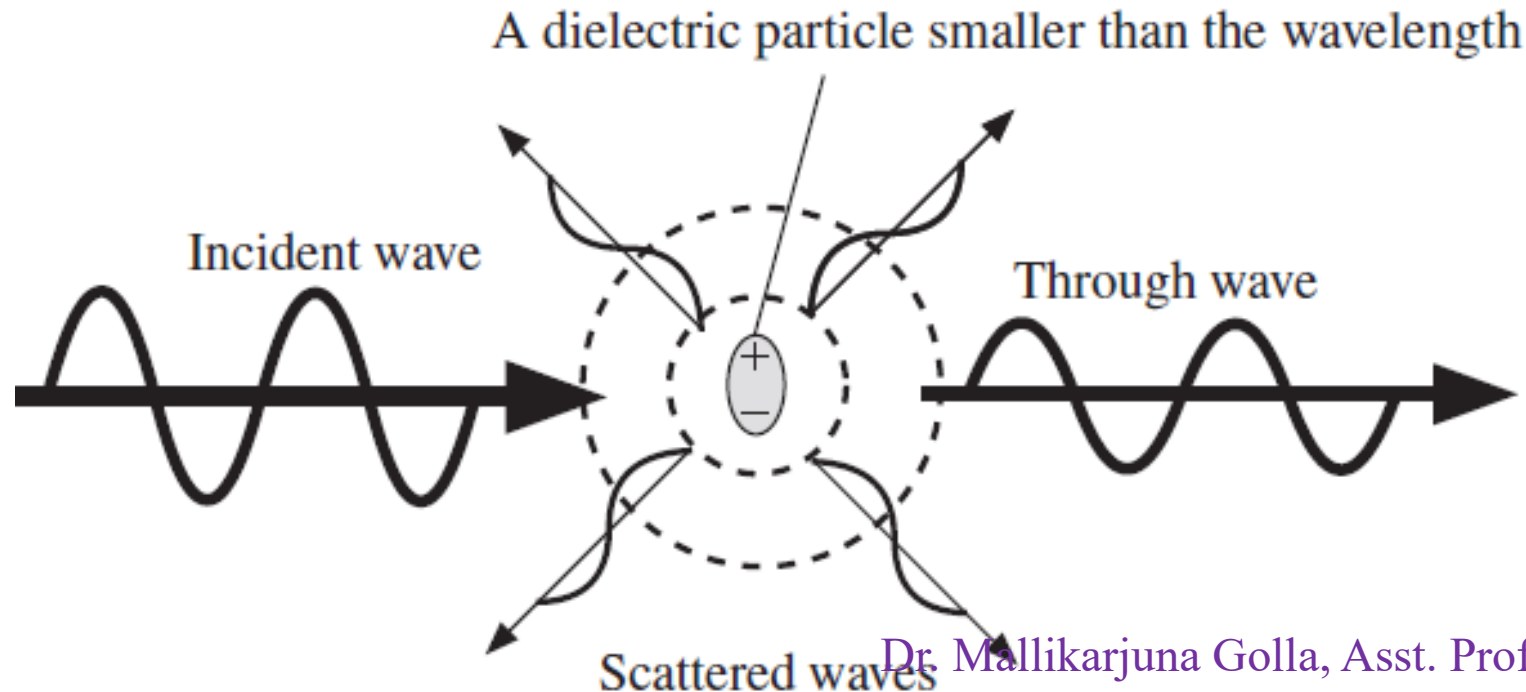

Figure 9.25 Rayleigh scattering involves the polarization of a small dielectric particle or a region that is much smaller than the light wavelength.
Scattering of an EM wave implies that a portion of the energy in a light beam is directed away from the original direction of propagation as illustrated for a small dielectric particle scattering a light beam in Figure 9.25. There are various types of scattering processes.
- The electrons in the molecule couple and oscillate with the electric field in the wave (AC electronic polarization). The oscillation of charge “up” and “down,” or the oscillation of the induced dipole, radiates EM waves all around the molecule as depicted in Figure 9.25.